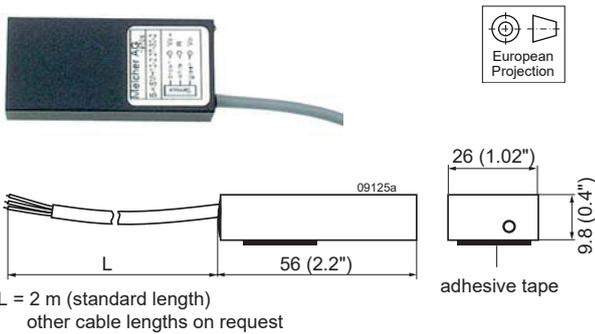

Fig. 17
- Battery sensor [S-KSMH...] for using the regulator as battery charger. Different cell characteristics can be selected; see fig. 17 and the Temperature Sensors data sheet.